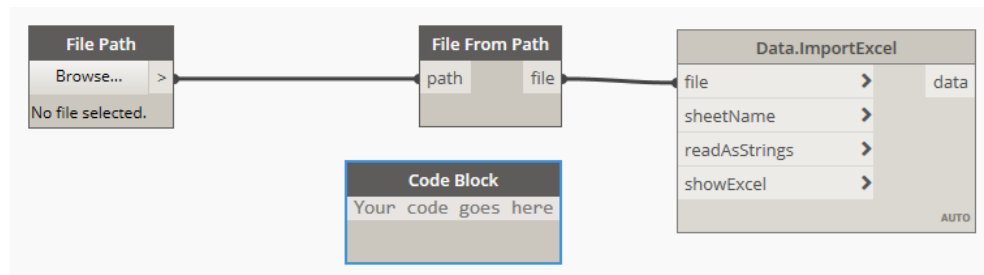

Figure 59
5. Wire the nodes as indicated in Figure 59.